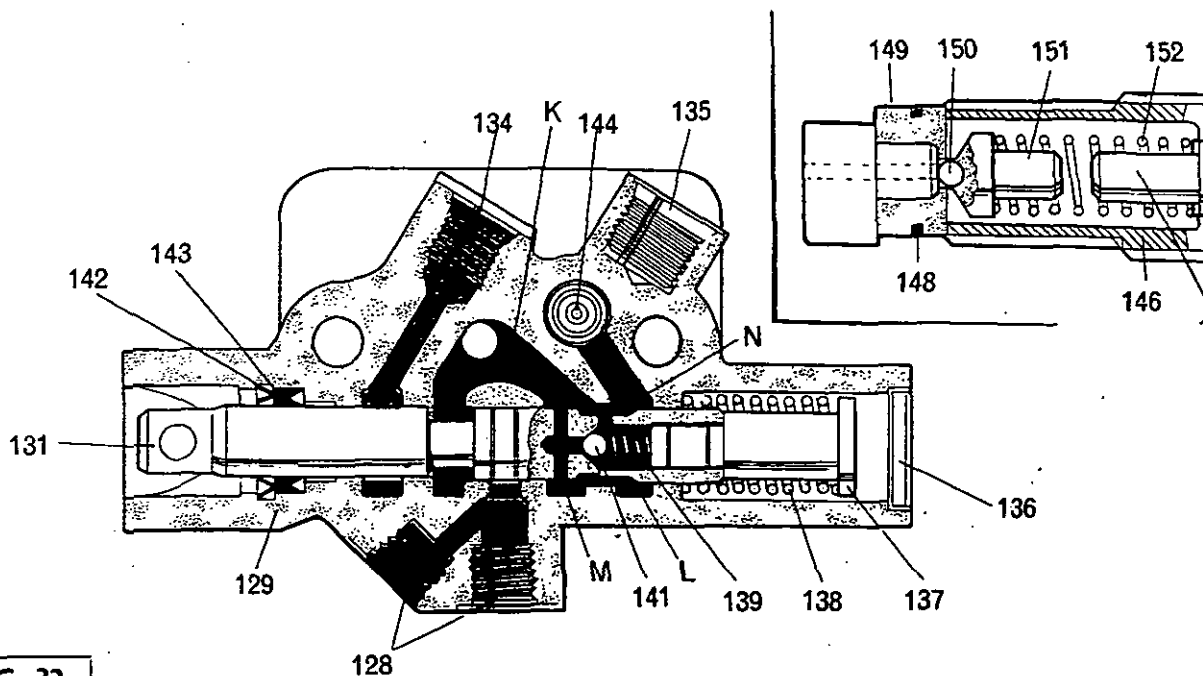
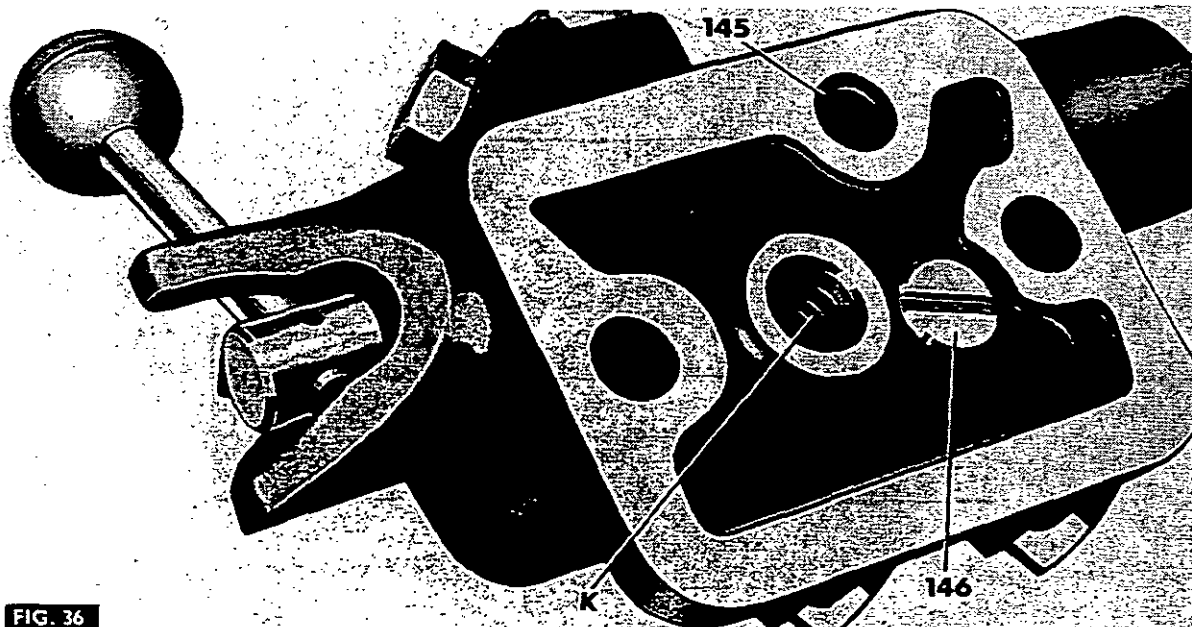

FIG. 32
FIG. 36
Fig. 32. With the lever in the LINKAGE position (i.e. Vertical), oil flows from the hydraulic pump standpipe into the valve inlet port (K) and passes along the gallery into the linkage lift ram cylinder, through port (L). The tractor lower links can be operated in the normal manner. The other ports EXT 1 (128) and EXT 2 (134) are isolated.
4. Fig. 36. Fit an 'O' ring (145) to the lift ram cylinder port, as shown.
5. Place the selector valve gasket in position, ensuring that the oilways are clear, then carefully locate the selector valve on the standpipe, fit the instruction plate plain washers and special 7/16 UNC x 73 mm (2 7/8 in) bolts (133). Tighten the bolts to 5,5 Kg-m (40 lb-ft).
4. Drive out the roll pin (130) and remove the lever (132).
5. Fig. 32. Using a soft faced drift, gently tap the spool (131) towards the rear of the valve, to force out the welsh plug (136). Withdraw the spool from the valve body (129), complete with the return spring (138).
7. Remove the screw (137) and remove the spring (139) and ball (141).
8. Fig. 36. Only if necessary, remove the relief valve plug (146).
9. Fig. 32. Remove the ball (150), poppet (151), spring (152) and second poppet (147).
1. Fig. 32. If necessary, fit a new 'O' ring (148) to the valve seat (149) then slide the valve seat into the body (129).